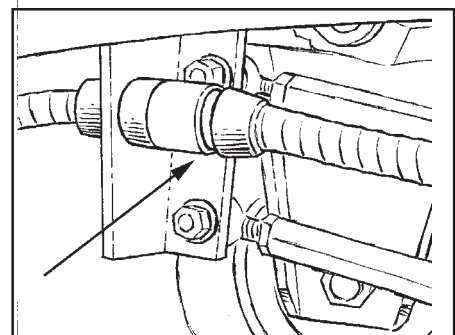

Figure 22
10. Attach the solution hose quick connect coupling to the machine (see figure 22).